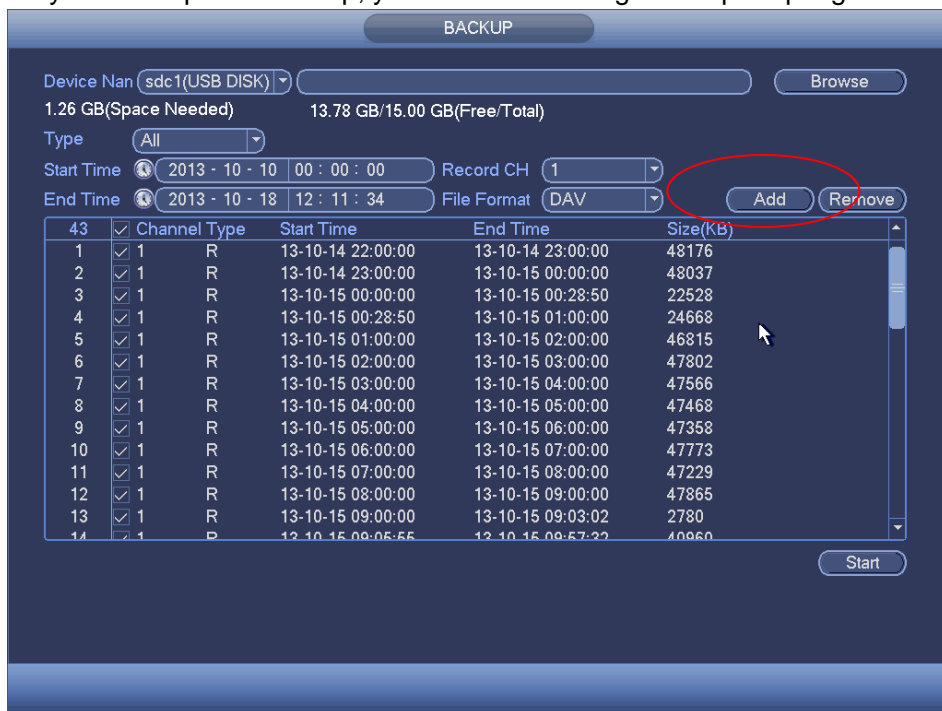

Figure 3-69
- d) Click add button, system begins search. All matched files are listed below. System automatically calculates the capacity needed and remained. See Figure 3-69.